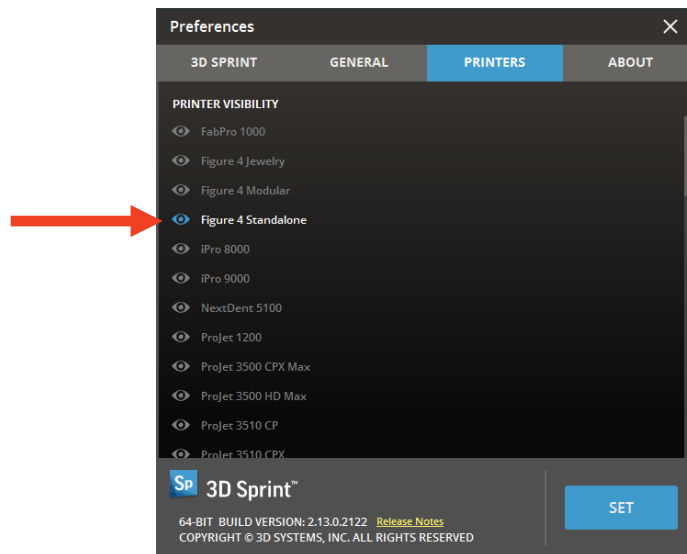

Figure 3 Preferences Printers tab
- Click on the **Printers** tab (Figure 3)